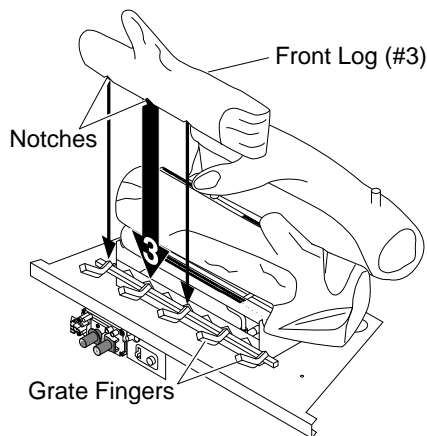

Figure 24 - Installing Front Log (#3)
3. Locate the notches in the bottom of the front log (#3). Place the front log on the grate fingers. Make sure the notches of the front log line up with the grate fingers (see Figure 24).